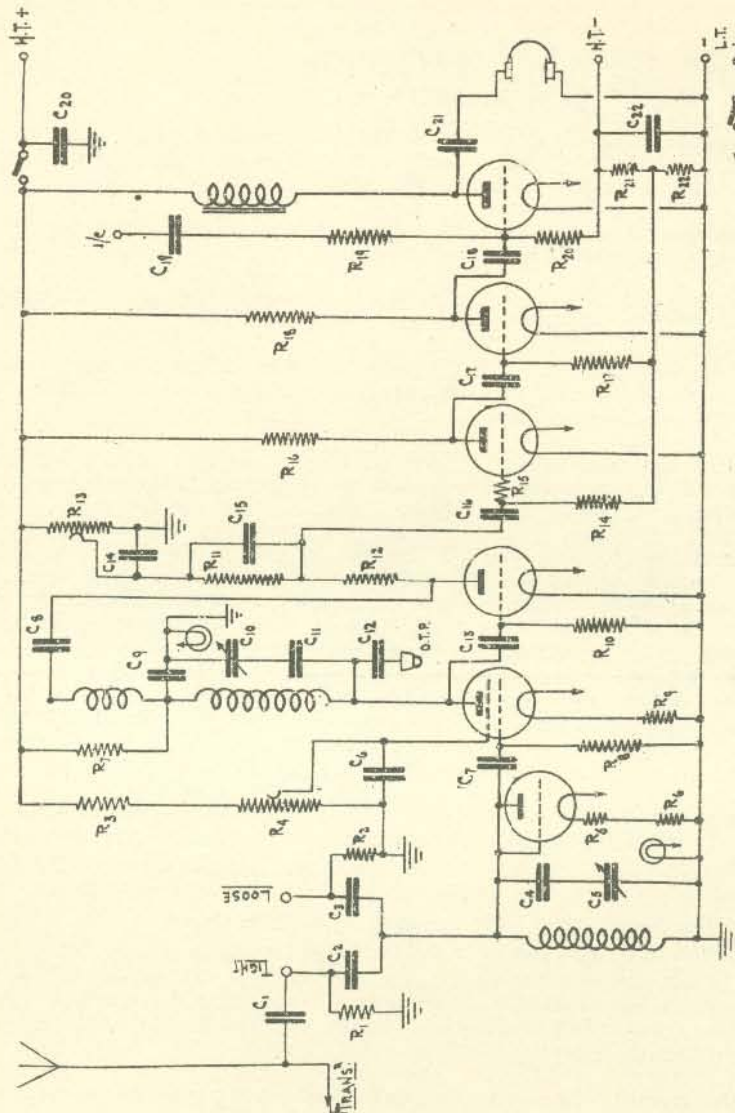
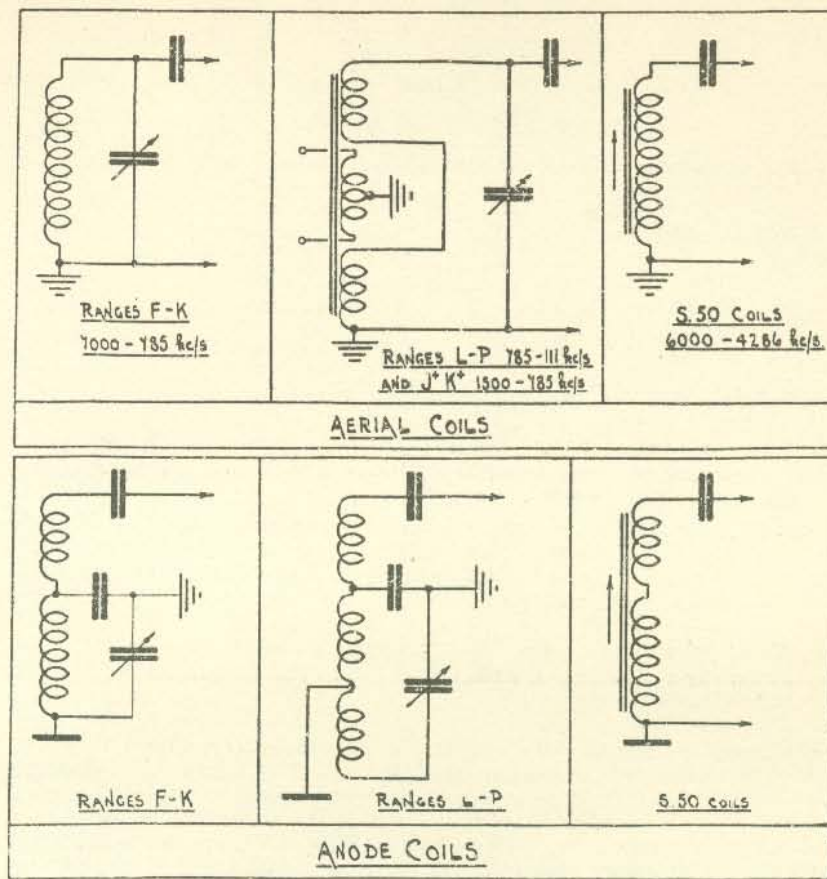
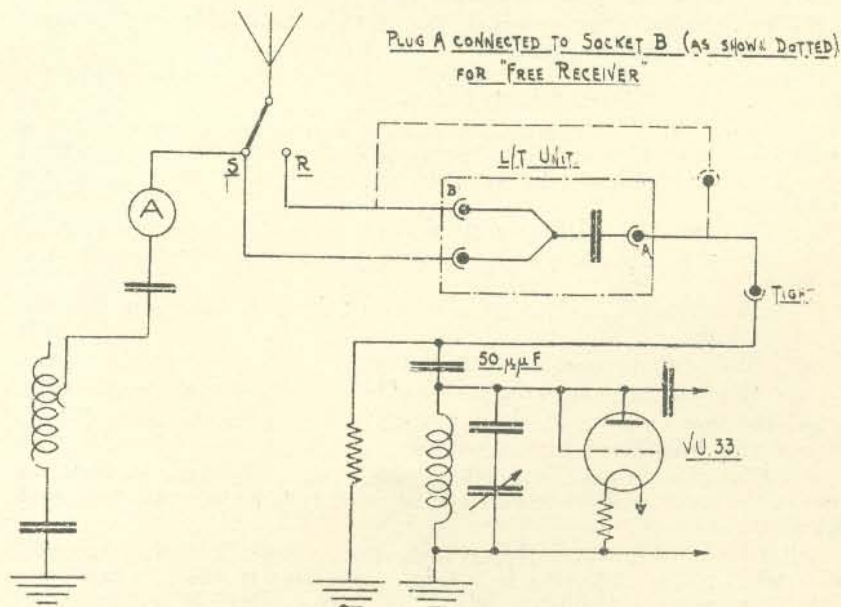

Fig. 67.—Receiver R.1082.
FIG. 68—Coils for R.1082 (ranges A-E (15-7 mc/s) shown in Fig. 67).
FIG. 69.—"Listening through" circuits (R.1082-T.1083).
6. Circuit (see fig. 67).—Circuit changes are effected by plug-in coils in aerial and anode circuits (fig. 68). The “limiter” valve is a triode wired to operate as a diode, shunted across the input circuit and biased slightly negative. Because of this bias it will have no effect on normal signals, but when using “listening through” arrangement (fig. 69) (i.e. when T.1083 and R.1082 are coupled to the same aerial) it prevents damage to the R.F. valve or circuits from the very large input from the transmitter. When the transmitter key is pressed, large voltages start to build up across the R.1082 aerial coil. The limiter valve becomes conductive as soon as these voltages exceed its fixed bias, and it shunts the input circuit.
(vii) Another external component is the high voltage "listening-through" condenser (fig. 69). The plug and socket connection to the L.T. condenser permits either "listening-through" or "free receiver" operations. "Listening-through" (possible when transmitter and receiver use the same